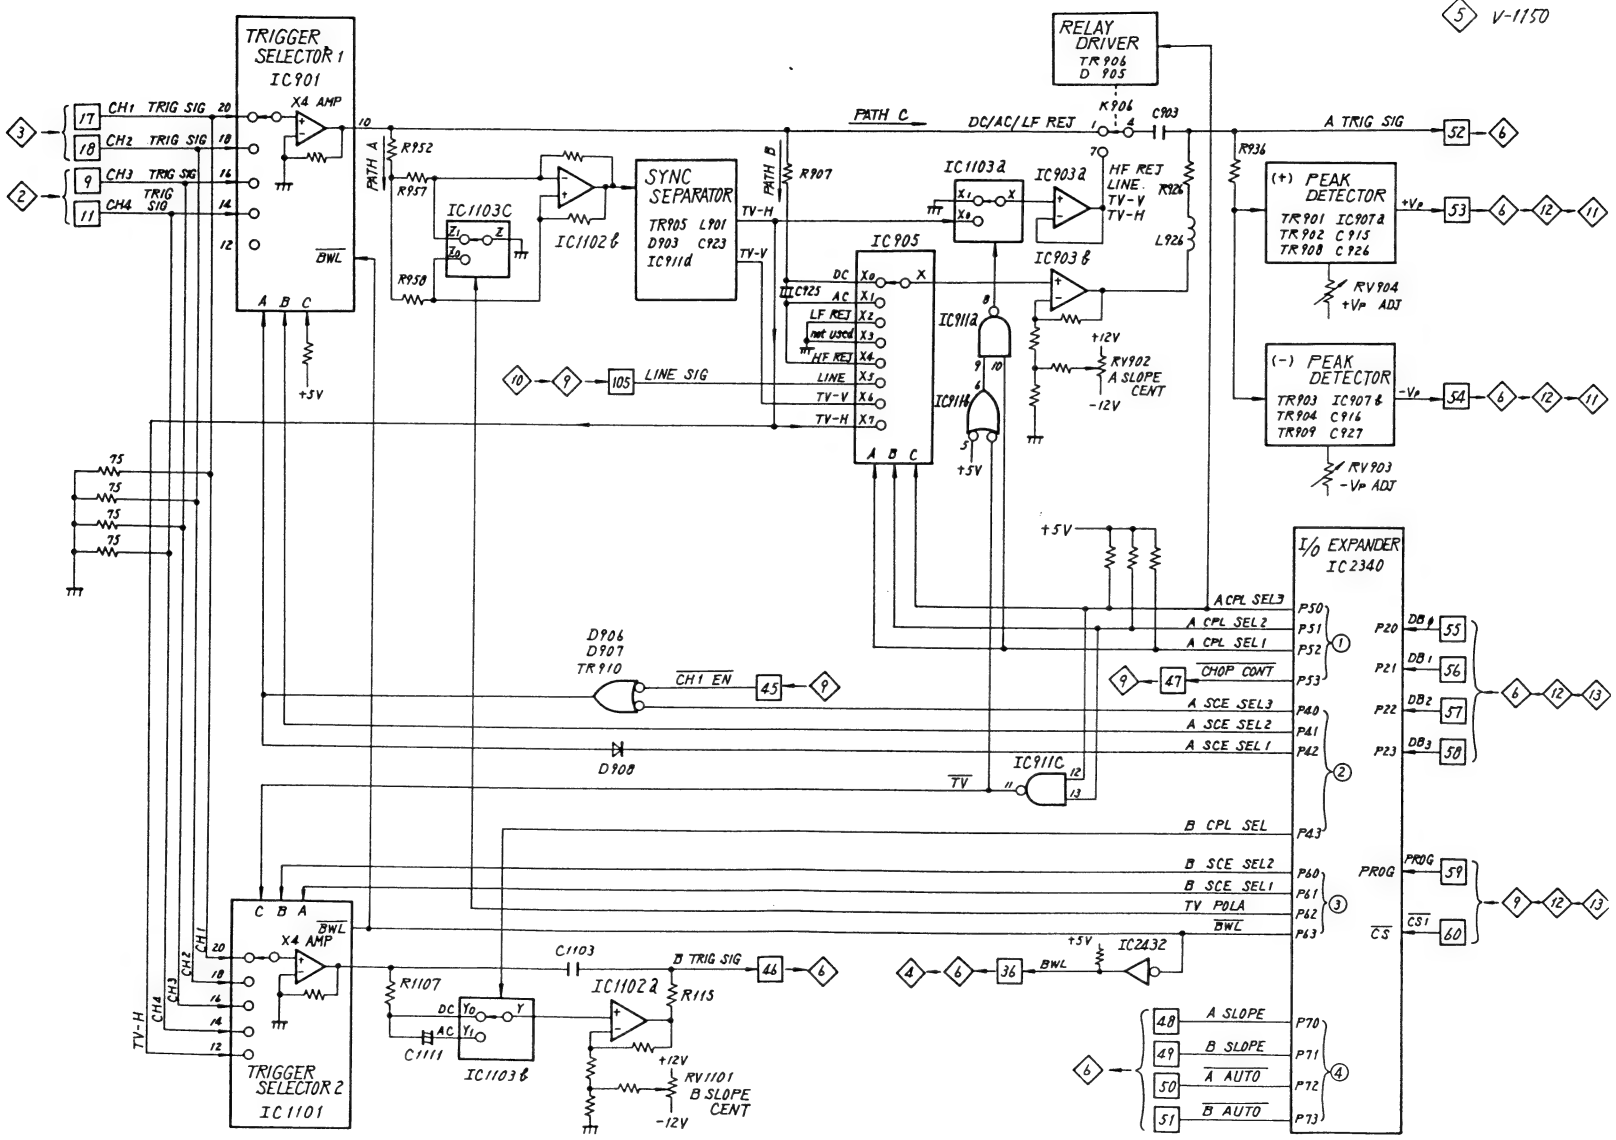

Fig. 6-6
Figure 6-6 shows a detailed block diagram of this circuit. The TRIG SIG from 17 , 18 , 9 , and 11 are supplied to TRIGGER SELECTOR 1 IC901 and TRIGGER SELECTOR 2 IC1101 which select trigger sources of A TRIG and B TRIG, respectively. The two selectors use same ICs, UH-207. The UH-207 incorporates an analog switch for 5-channel switching and a 4X amplifier and a bandwidth can be switched between 150 MHz and 20 MHz by the BWL signal. (When the BWL signal is "L," the bandwidth of 20 MHz is selected.) The TRIGGER SELECTOR 1 uses four channels and the remaining one channel is not used.
As shown in Figure 6-6, D906, D907, and TR910 constitute a circuit equivalent to a negative OR circuit.
I/O EXPANDER IC2340 functions as an output port in this circuit. IC2340 consists of four output ports ① , ② , ③ , ④ as shown in Figure 6-6. The PROG signal from 59 controls the output port to which the data (DB0, DB1, DB2, and DB3) from the microcomputer is supplied.